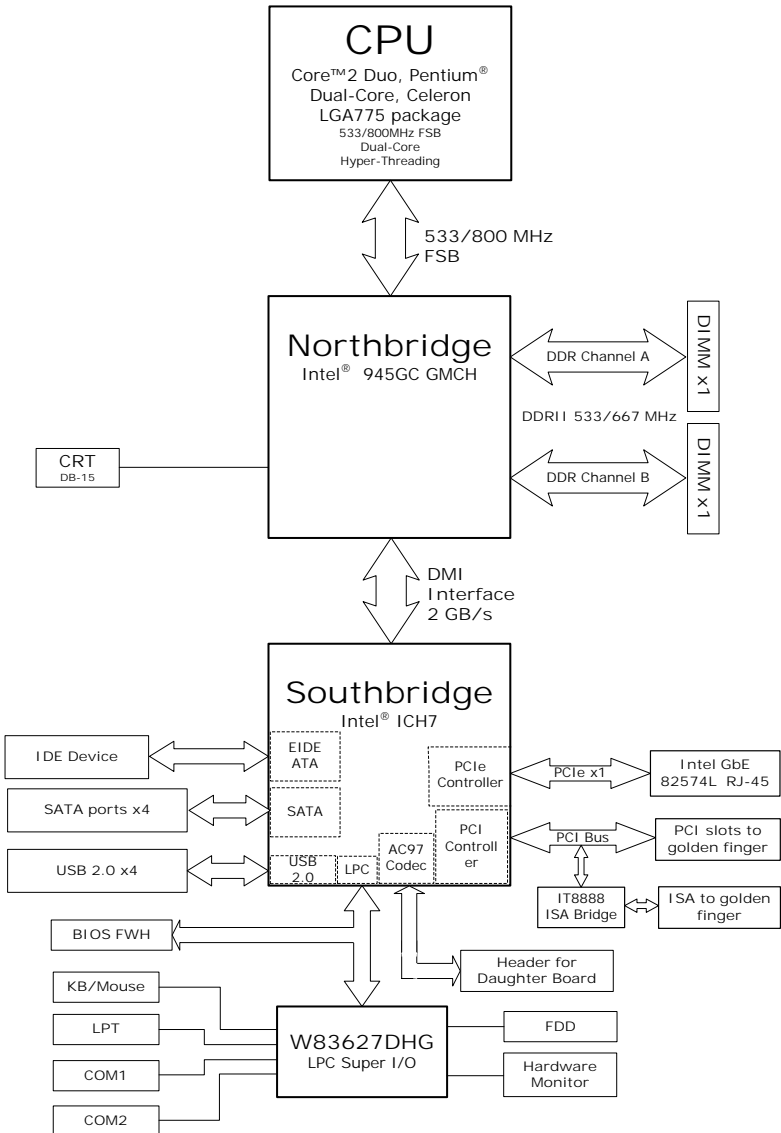

Figure 1-2: NuPRO-A301 Block Diagram
- Figure 1-2: NuPRO-A301 Block Diagram 5